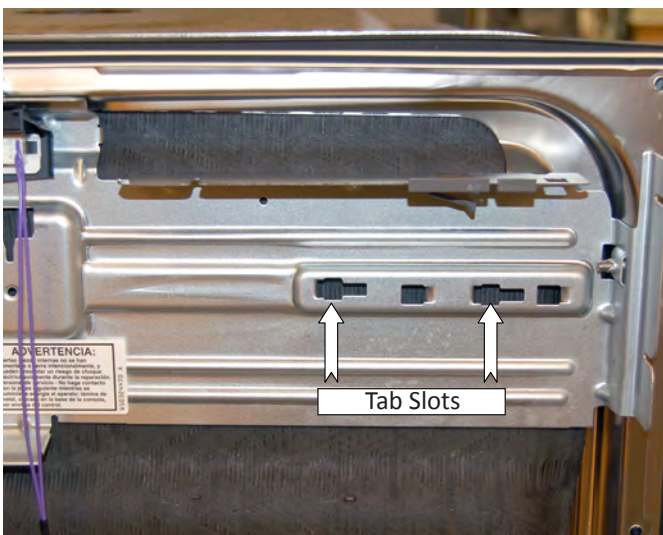

*Figure 1*
3. Lift up locking tab, see figure 1